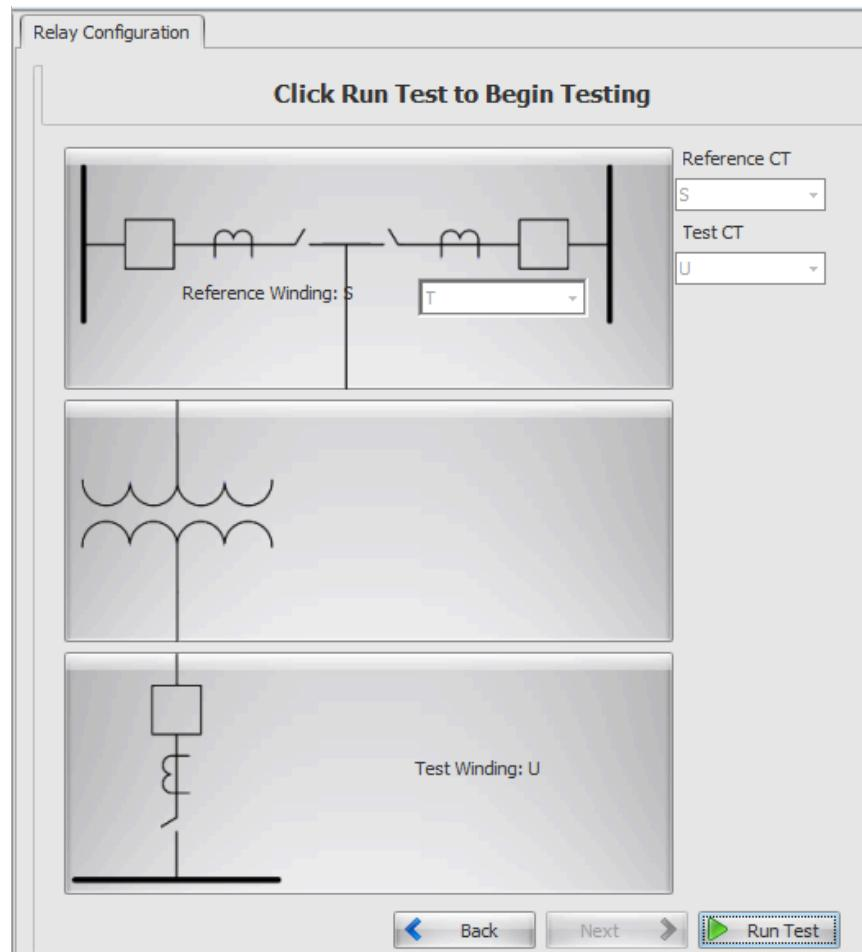

Figure 7.35 Ready to Run the Test
Step 11. After assigning Winding U as test winding, click **Next** to move to the screen shown in *Figure 7.35*. Notice that the text "Test Winding U" appears next to CTU.